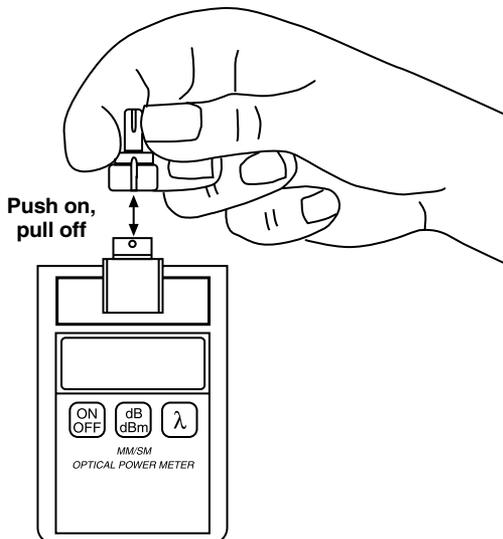

Figure 3-3. Removing and replacing the adapter (power meter shown).
2. With the keyway properly aligned, slip the adapter over the interface until you hear a “snap.” The adapter is now locked in place, as shown in Figure 3-3.